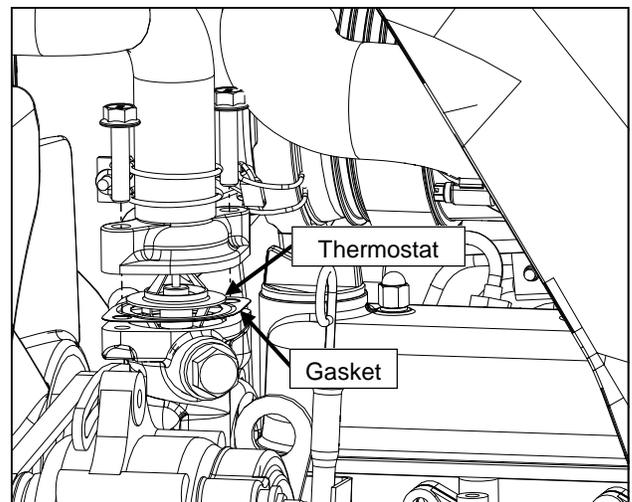

Figure 17.6 (Remove Thermostat)
- 17.6** Unbolt the thermostat housing and remove the thermostat and gasket. See Figure 17.6. Save the thermostat for re-installation, but discard the gasket and bolts.